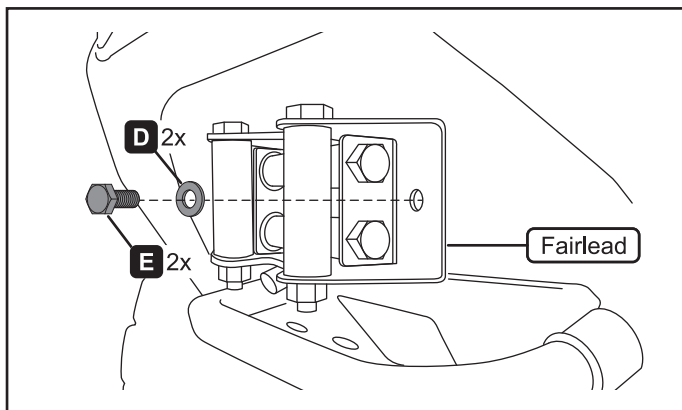

Figure 8.
7. Install your fairlead to the fairlead mount (B) using bolts (E), washers (D) and nuts (C) as shown in figures 8 and 9.